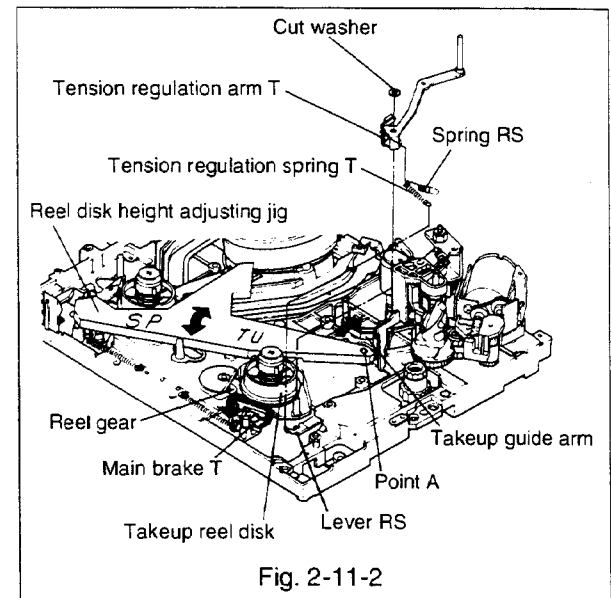

Fig. 2-11-2
2-11-2 Installation(Refer to Fig. 2-11-2, 2-11-3.)
- A. Turn the main brake T slightly counter-clockwise to release the takeup reel disk shaft. Slip the takeup reel disk onto the shaft so that the gear of the takeup reel disk shall mesh with the reel gear. (Refer to Fig. 2-11-2.)